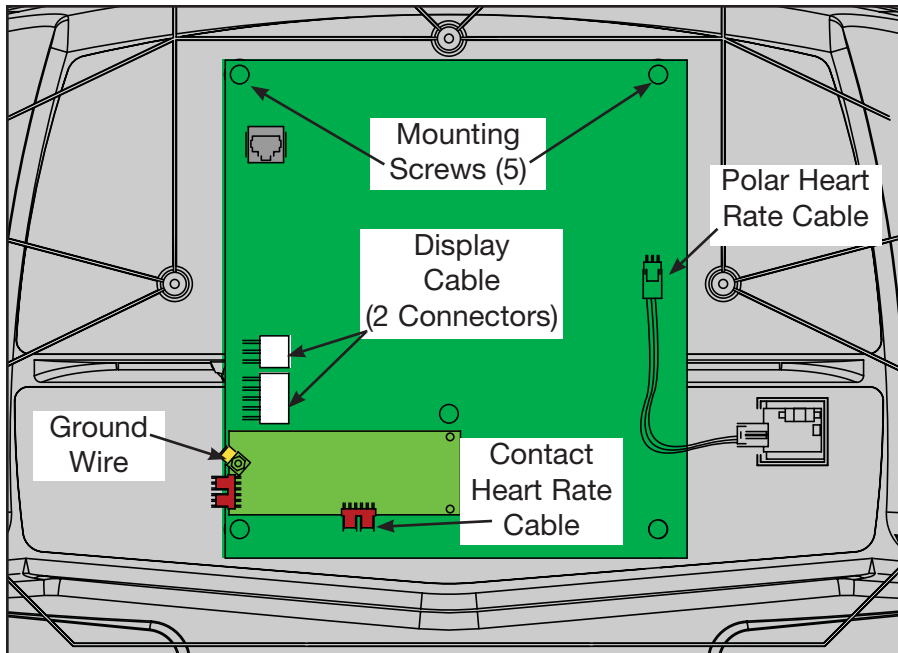

Figure 22
- D.** Gently tilt the console assembly forward and disconnect these cables from the display board: the display cable (2 connectors), the contact heart rate cable, the Polar cable and the ground wire. See Figure 22.
A. Using a Phillips head screwdriver, remove the five screws that hold the display board to the console. See Figure 22.
- A. Connect the contact heart rate connector into the bottom of the heart rate board. See Figure 22.